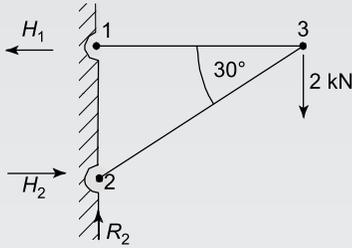

Figure RT3.1
1. Determine the unknown internal forces in the pin-jointed truss of Figure RT3.1.